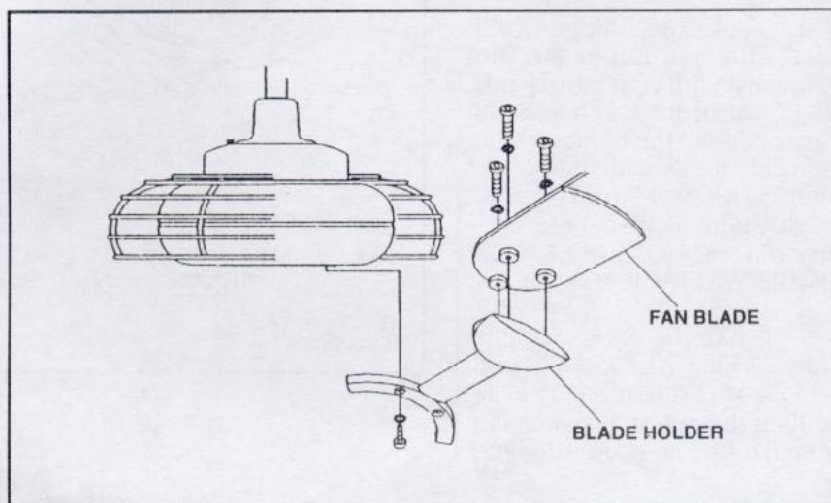

FIG. 16
**Step 1.** Attach the fan blade to the blade bracket using the screws provided. Tighten screws securely. Repeat process with remaining blades. (Fig. 16)
**Step 2.** Align holes from the blade bracket and motor and secure with screws provided, make sure the screws are securely tighten. Repeat process with the other blade brackets. (Fig. 16)